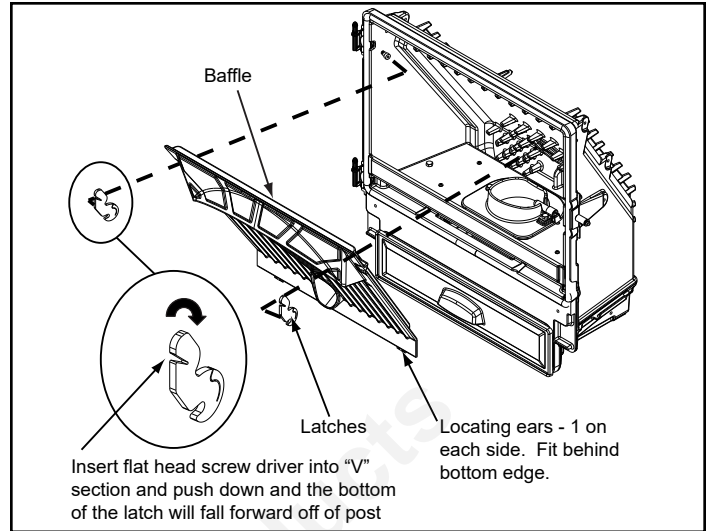

Figure 24.2
4. Remove baffle by placing a flat head screw driver into the slot of the latches located in the upper corners and rotate down. The bottom of the latch will fall forward off of the post. Lift the baffle up and then out toward you (Figure 24.2).